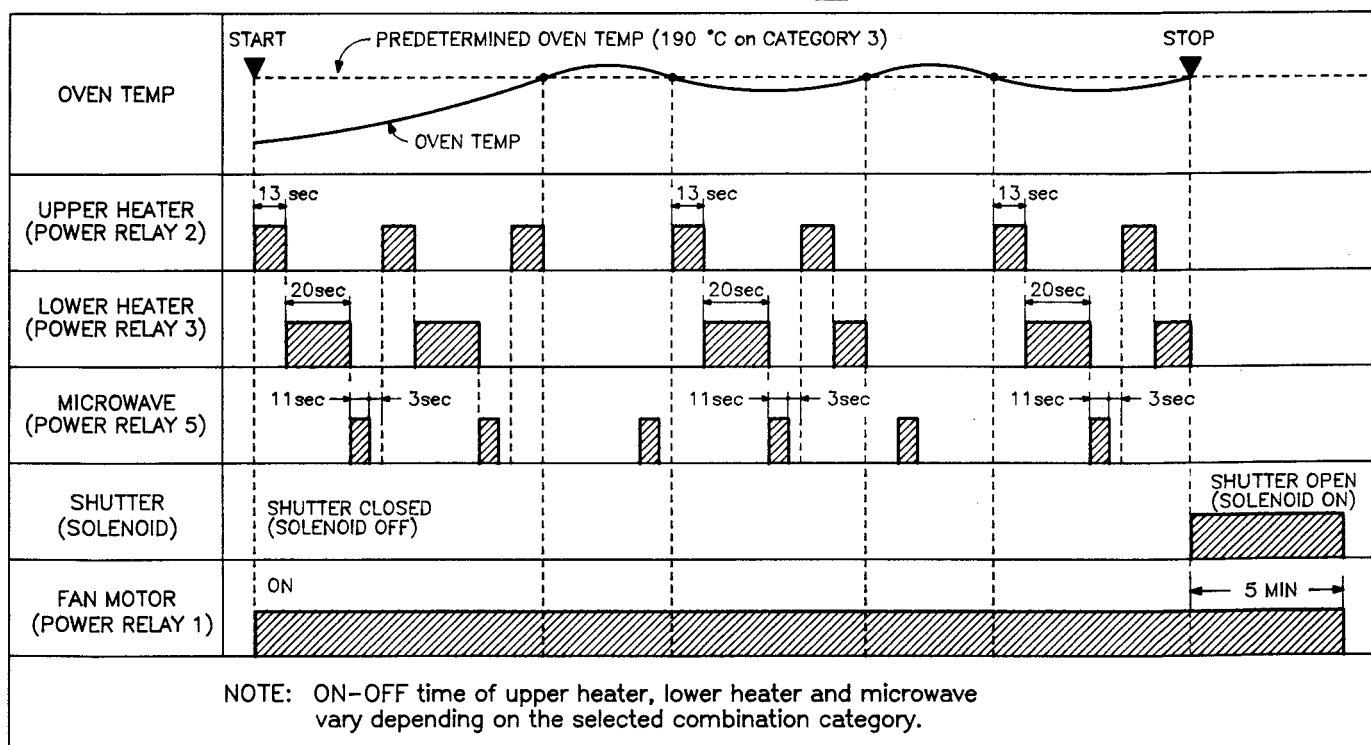

Fig. 11
- (A) The digital programmer circuit generates the power relay 2, 3 and 5 control signals at a specific timing as shown in Fig. 11.
- (B) When the oven temperature reaches the predetermined temperature, the digital programmer circuit stops supplying power relay 2 and 3 control signals resulting in both upper and lower heaters to turn off. During this, digital programmer circuit continues supplying power relay 5 control signal so that microwave activity continues at predetermined duty ratio as shown in Fig. 11. The microwave activity continues to cycle until entire cooking programme is completed.
- (C) When the oven temperature drops below the predetermined temperature, the digital programmer circuit generates power relay 2 and 3 control signals again at the timing predetermined.